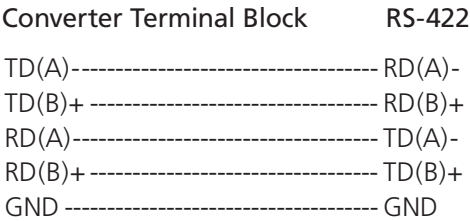

Figure 3-1. Connection to a RS-422 System.
The Async RS-232 to RS-422 Interface Converter is configured to transmit in both directions between an RS-232 and RS-422 system. The RS-232 side is pinned out to connect directly into the COM port on your computer or any other DTE device (Table 3-1). Connections to the RS-422 side of the converter are made through terminal blocks. When connecting to an RS-422 system, the converter must be connected with the proper polarity as shown in Figure 3-1. When no data is being sent and the driver is enabled, the RS-232 line is negative and the RS-422 line TD(A) is negative with respect to TD(B).